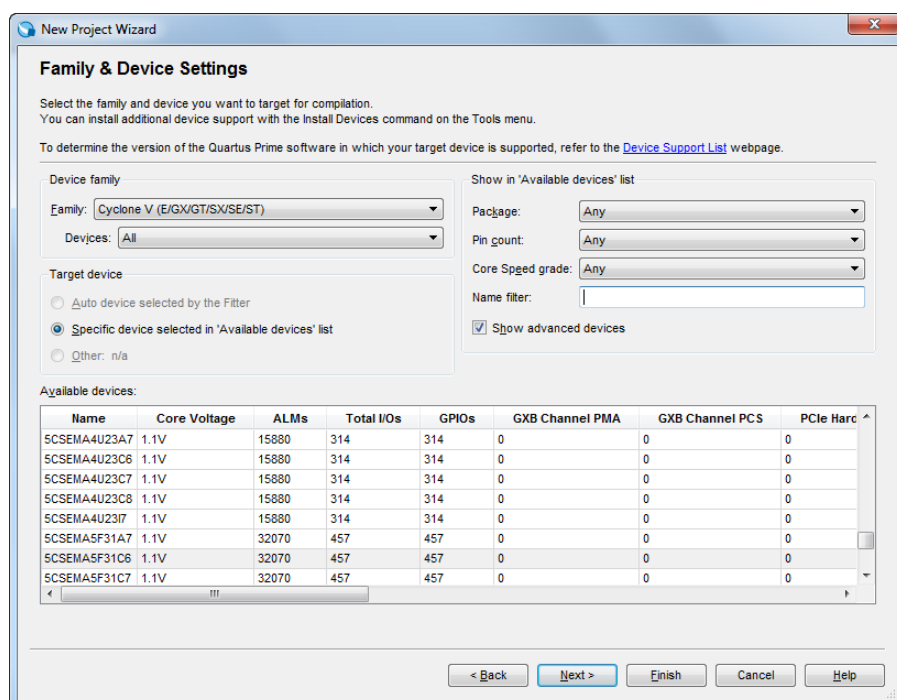

Figure 8. Choose the device family and a specific device.
4. The wizard makes it easy to specify which existing files (if any) should be included in the project. Assuming that we do not have any existing files, click **Next**, which leads to the window in Figure 8.